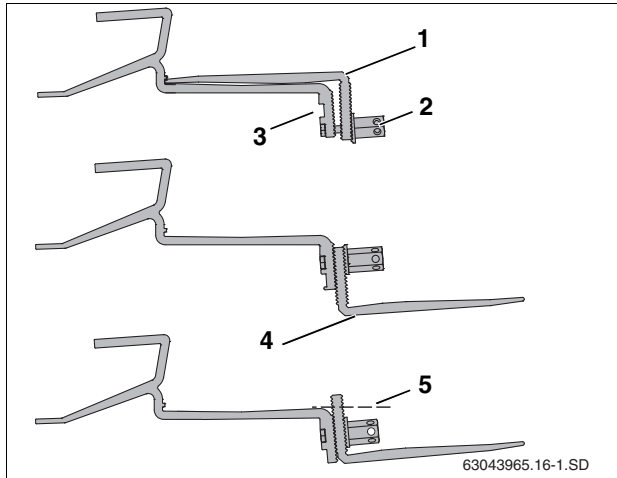

Fig. 12 Adjusting the roof hook
- ▶ Loosen the long hex-nut (Fig. 12, [2]) and disassemble the unit.
- ▶ Insert bolt into upper hole (Fig. 12, [3]).
- ▶ Reassemble with the L-shaped piece (Fig. 12, [4]) facing away and down.
- ▶ Do not tighten the nut (Fig. 12, [2]) until the hook is installed and properly adjusted.